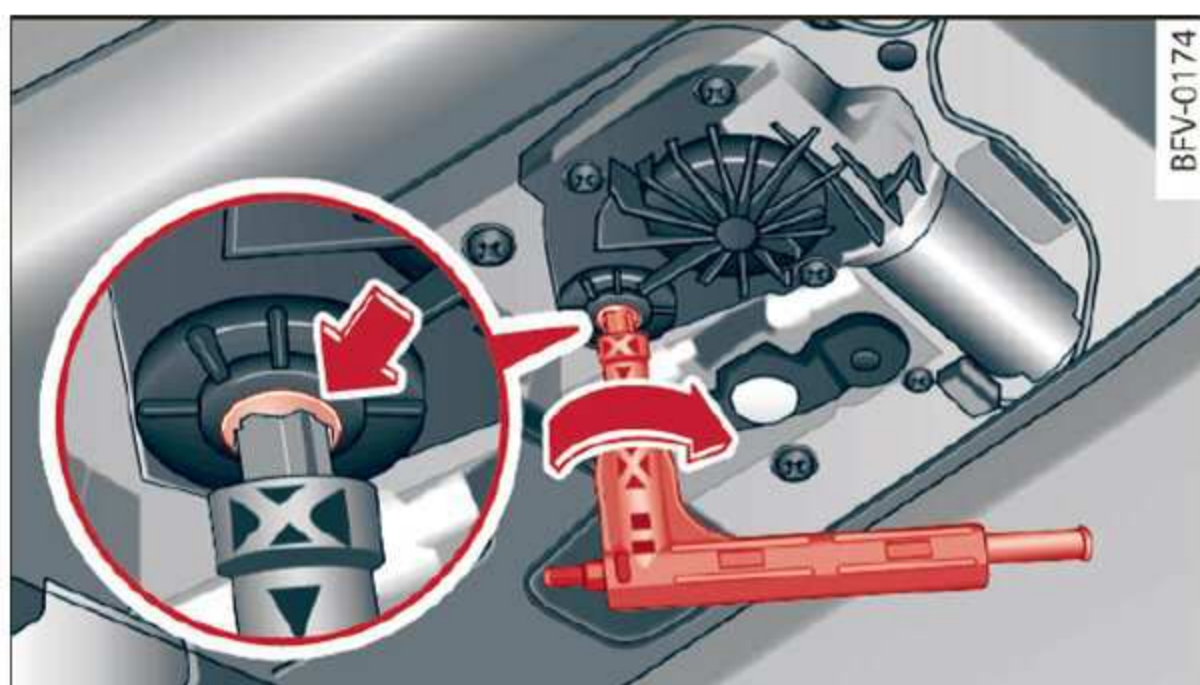

Fig. 36 Inside of the power top: crank for emergency operation
- ▶ Insert the crank (Torx head) into the opening until the stop ring rests on the motor ⇒ *page 37, fig. 36*.